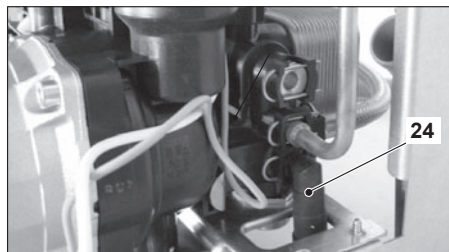

Fig. 9.3
- Open the central heating drain cock (24 in Fig. 9.3).